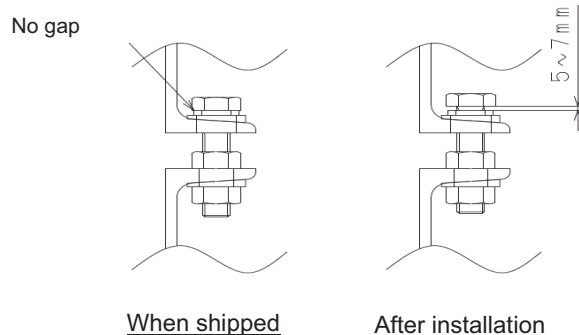

Figure 6 – Stopper bolt adjustment
- (2) The product is shipped with the stopper bolts tightened as shown in Fig. 6_ "When shipped." After installation of the product at the delivery site, be sure to fix the stopper bolts in the position shown in Fig. 6_ "After installation."
If the fan is operated with the stopper bolts locked (see Figure 6), the expected vibration-proof effect cannot be obtained.